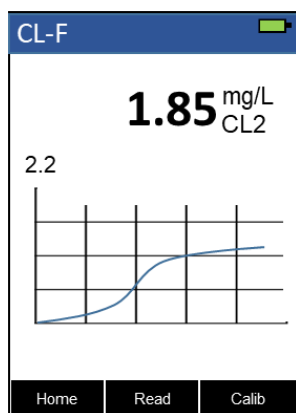

Figure 14
3. Press **Calib** (  ) to launch the calibration screen (Figure 14).